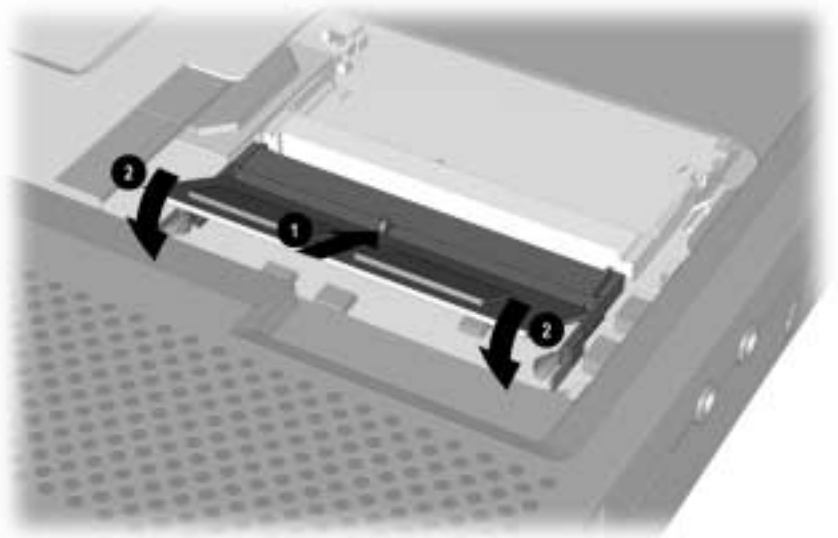

Figure 5-11. *Installing a Memory Expansion Board*
1. Insert the memory expansion board into an empty memory expansion slot at a 45-degree angle ❶ (Figure 5-11).
2. Push the memory expansion board down ❷ until the board is seated in the plastic retention clips.